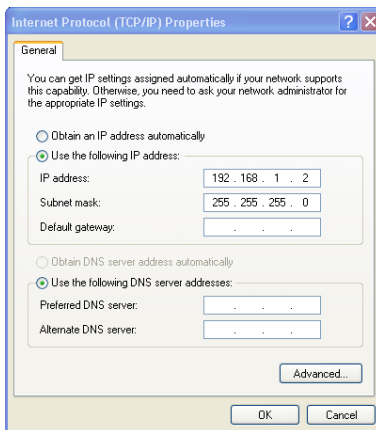

Figure 5: Internet Protocol (TCP/IP) Properties Window
6. Select Use the following IP Address, and fill in the details as shown in Figure 5. You can use any IP address in the range 192.168.1.1 to 192.168.1.255 (excluding 192.168.1.39) that is provided by your IT department.